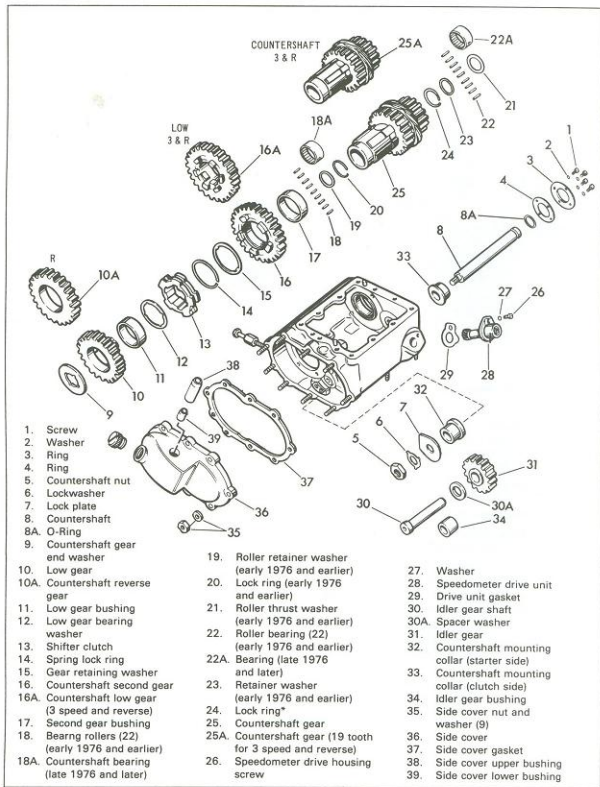
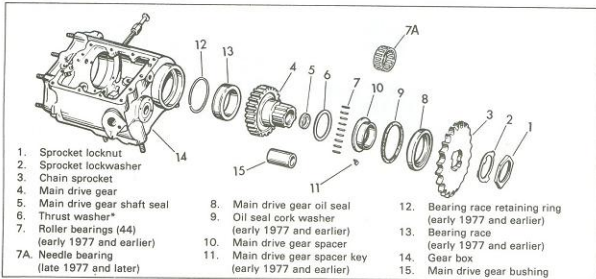

Figure 4-18. Countershaft and Case Assembly - Exploded View
Figure 4-20. Main Drive Gear - Exploded View
DISASSEMBLING COUNTERSHAFT (Figure 4-18)
(Figure 4-20)
To install main drive gear bearing race (13, Figure 4-20), heat case to about 300 degrees and press out old race with arbor press after removing bearing race retaining ring (12). Reheat case and press in new race until flange is seated against case. Install new bearing race retaining ring.
Carefully check shifter clutches (13, Figures 4-18 and 4-19) and engaging dogs on gears. If they are rounded or battered appearing, they must be replaced.
Check bearings (7 and 7A, Figure 4-20 and 18, 18A, 22 and 22A, Figure 4-18) for proper fit in races according to tolerances shown in "Transmission Specifications." Replacement rollers are available standard, .0004 in. and .0008 in. oversize.
ASSEMBLING MAIN DRIVE GEAR (Figure 4-20)
If working on three-speed transmission, install reverse idler gear (31, Figure 4-18) and shaft before installing retaining plate.
ASSEMBLING COUNTERSHAFT (Figure 4-18)
Refer to Figure 4-18. In three-speed and reverse countershaft assembly, omit shifter clutch (13), lock ring (14), thrust washer (15) and gear bushing (17).